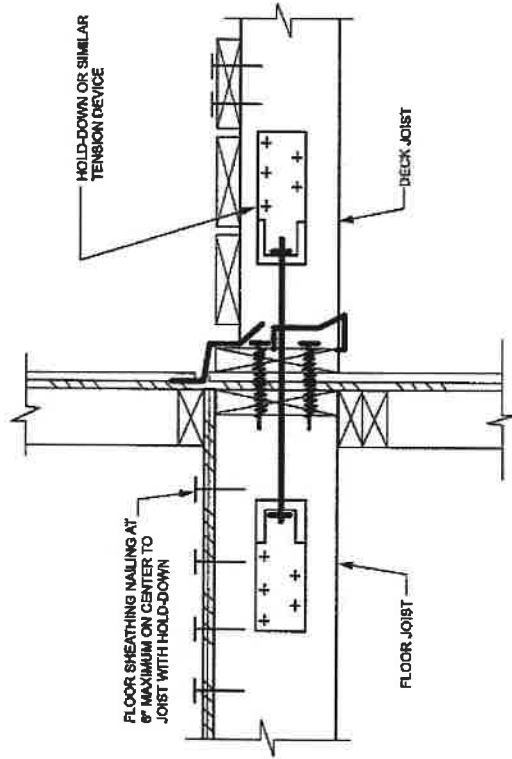

FIGURE 1
Member sizes were designed assuming beams were braced continuously to prevent lateral compression buckling. Where the lateral load connection is provided as shown in Figure 1 below, hold-down tension devices shall be installed in not less than two locations per deck, within 24" of each end of the deck. Where the lateral load connection is provided as shown in Figure 2, the hold-down tension devices shall be installed in not less than four locations per deck.
The first method of construction to be considered is to have the deck boards running parallel to the house with the floor joists running perpendicular. This allows a girder loaded on one side with joists spanning 12'. Using **Table 1** above and a joist spacing of 16" on center, 2x10 joists will be required. The house wall ledger board shall be 2x10 minimum. The house wall ledger board is anchored to the house using 1/2" diameter lag bolts with washers spaced 15" o.c., staggered spaced. Copper flashing is used between the house and the ledger board and Z-flashing above the ledger board. **Table 4** requires the deck beam to be 2-2x12 minimum having a maximum span of 8'-7". When 2-member deck beams are used, both members must be supported by the posts at each end and at splice points. From **Table 2**, a deck height of 10' requires the use of 6" x 6" wood. Finally, using **Table 3**, a 2-2x12 deck beam requires a footing size of 24" x 24" square or 27" diameter round dug a minimum of 12" deep and poured a minimum of 6" thick concrete. Install 2 #4 rebar in the footing each direction for reinforcement. Lateral load tension devices will be installed per Figure 1 or Figure 2 above. **Note: The house rim / band board must be structurally attached to the house frame.**
**EXAMPLE 1B:** A second method of construction is to have the deck boards running perpendicular to the house with floor joists running parallel. This method uses a deck beam loaded on both sides to allow joist spans of 7'-6". Using **Table 1** and a joist spacing of 24" on center, 2x6 joists can be used. The house wall ledger board in this case is not required since ledger boards are not allowed to support concentrated loads from beams or girders. Additional posts will be required at the house to support the deck beams. The deck beams will now run perpendicular to the house and the deck is free-standing. **Table 4** shows us that 2-2x8 deck beams will span 7'-7" between posts. This means that for a 12' deck beam a post will be required mid-span of the beam and another at each end of the beam. Again, **Table 2** requires 6" x 6" posts for a deck height of 10' and **Table 3** shows footings of 17" x 17" square or 19" diameter round when using 2-2x8 beams or girders. Lateral load tension devices will be installed per Figure 1 or Figure 2 above.